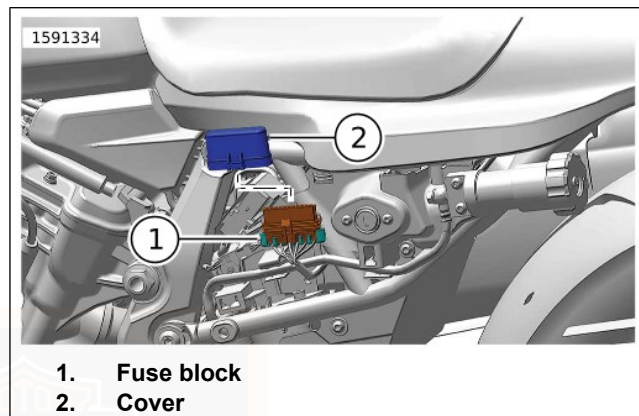

Figure 73. Fuse Block - Location
1. Figure 73 Install fuse block cover (2).
- a. Verify tabs snap into fuse block (1).